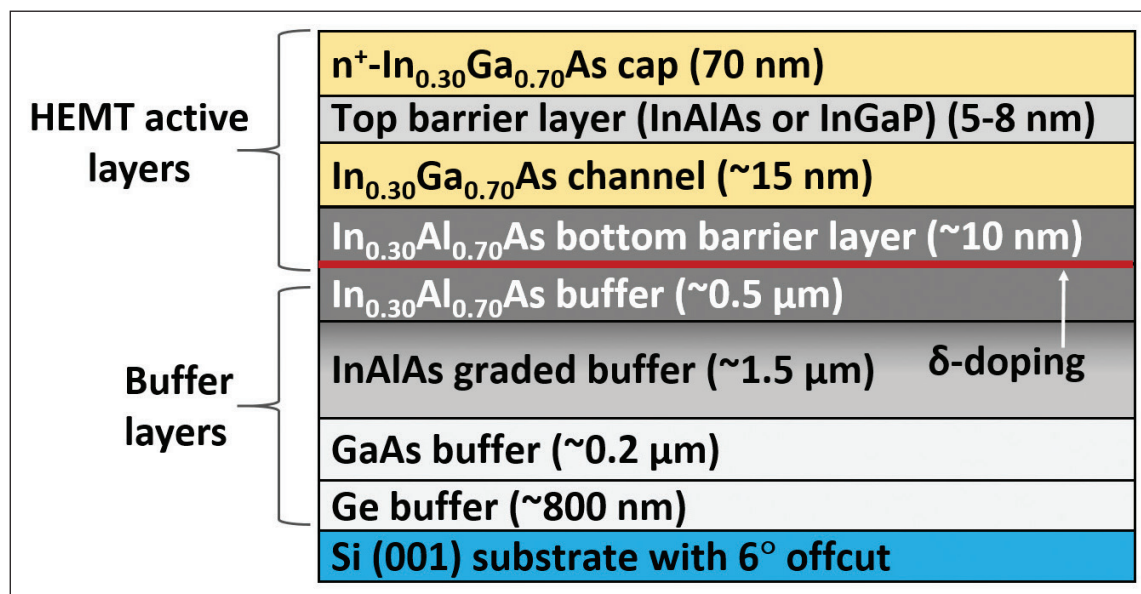

Figure 5. At SMART-LEES, InGaAs HEMT structures are grown on 200 mm silicon substrates using an Aixtron Crius MOCVD reactor.
Growth of our InGaAs HEMTs is carried out in an Aixtron Crius MOCVD reactor, using 725 μm -thick silicon (001) substrates with a 6° offcut and a diameter of 200 mm. To balance the device cut-off frequency, which is related to electron mobility, with the breakdown voltage that is related to the energy bandgap, we use an indium composition in our channel of 30 percent. Buffer layers address the large lattice mismatch between $\text{In}_{0.30}\text{Ga}_{0.70}\text{As}$ and silicon – it is 6.3 percent (see Figure 5 for details of the epistucture of our HEMT).